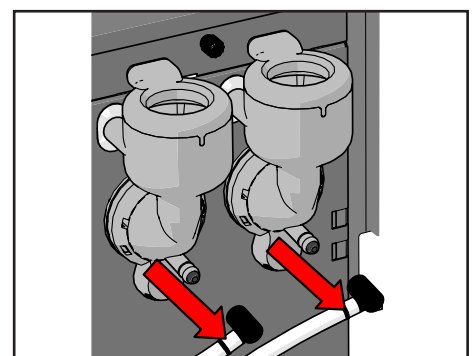

Figure 35.
7. Disconnect the outlet hose from the mixers (see Figure 35).